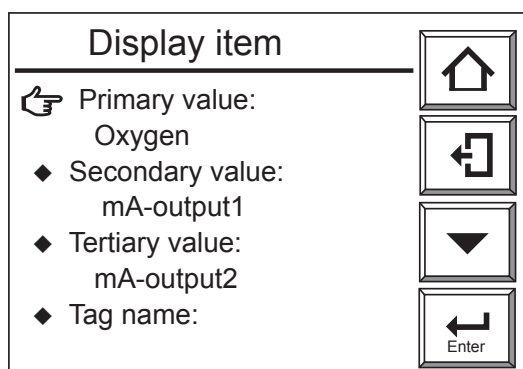
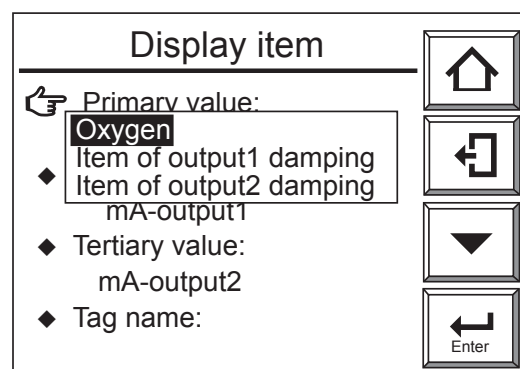

Figure 7.16 Display Item Display
Figure 7.17 Display Item Selection
- (3) In the above Display setup display, select the "Display item". The Display item display (Figure 7.16) then appears. From this display, select the "Primary value" and press the [Enter] key to display the "Display item" selection display (Figure 7.17).
- (4) Select the Secondary and Tertiary values in the same manner as in the steps above.
- (5) Consult Table 7.1, Display Items, enabling the selection of display items in individual display areas.